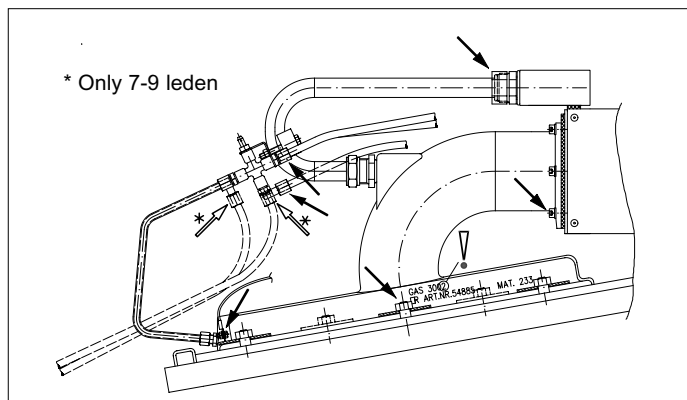
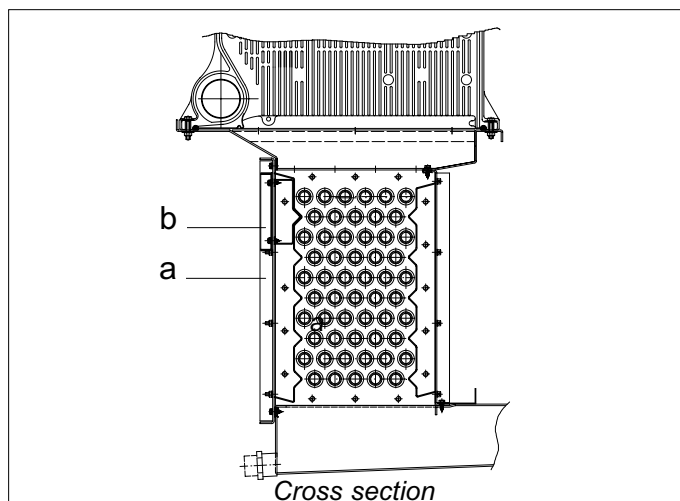

Fig. 23 Fastening points of burner unit
Fig. 24 Sectional drawing of the ECO
- Inspection for fouling of the boiler block by removing of one or two burner units (incl. mixing section, see fig. 23). If cleaning is required, all burner units must be removed. Next remove the front plate of the transition piece between the first and the second heat exchanger (see part A, fig. 24). Having removed the supports (see part D, fig. 24) which hold down the flue gas drawers (see part C, fig. 24) between the sections, remove the flue gas drawer downwards at an angle. The boiler block can now be cleaned from the top using a cleaning brush.
- Check the ECO for fouling through the inspection covers (see part B, fig. 24) in the front plate of the ECO (boiler with 7 sections only has 1 inspection cover).